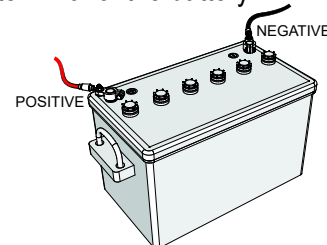

Figure 15. Battery Connections
2. **ALWAYS** be sure the battery cables are properly connected to the battery terminals (Figure 15). The **red** cable is connected to the positive terminal of the battery, and the **black** cable is connected to the negative terminal of the battery.